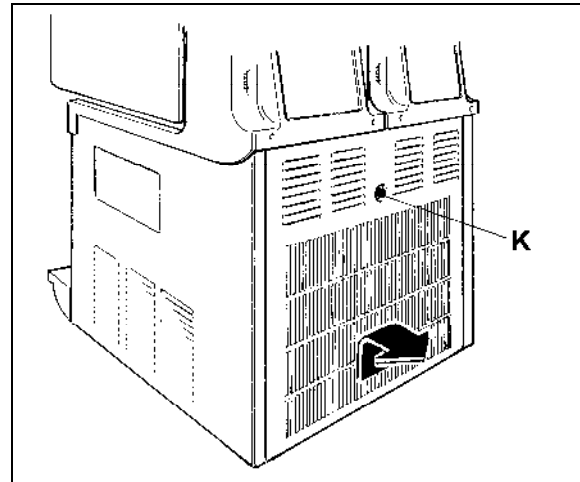

Fig. 26
- Unscrew the knob (K) in order to remove the back panel (see figure 26).